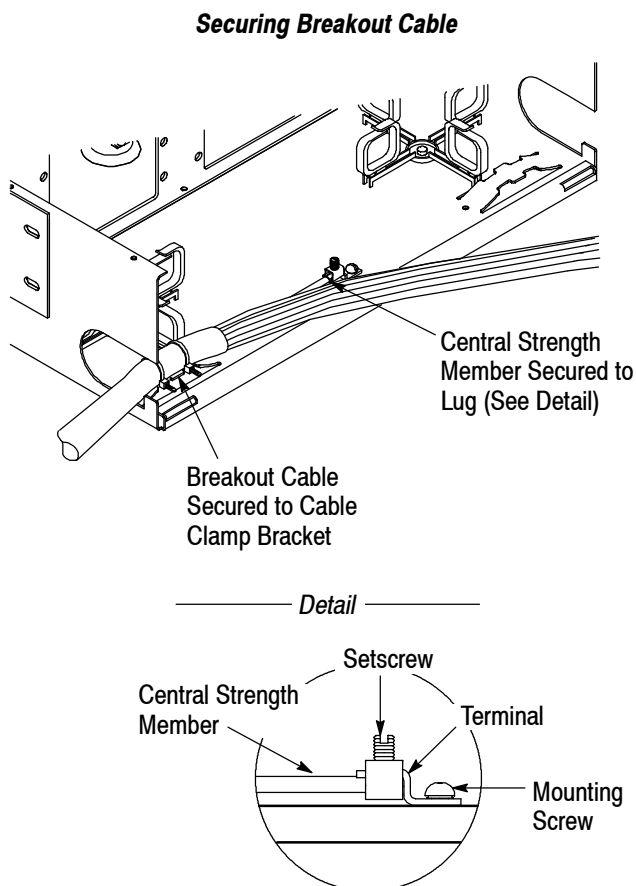

Figure 5
1. Route the cable through the cutout in the back of the enclosure and closest to the adapter plate to be used. Make sure that at least 2000 [79.0] of fiber is inside the enclosure. Lay the cable over the cable clamp bracket, and secure the cable to the bracket using cable ties. See Figure 5.
mounting screw. Loosen the setscrew, and insert the central strength member into the lug so that the central strength member butts against the terminal. Tighten the setscrew firmly. See Figure 5.